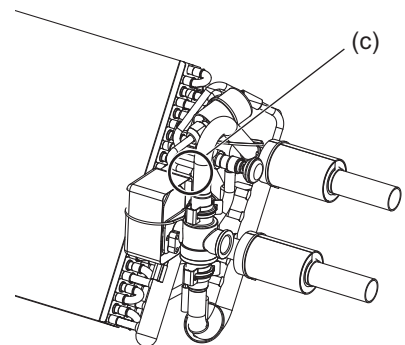

Fig.17
- (1) Debraze the brazed portion of the pressure sensors in the (Fig.17, 18) and then replace the pressure sensors with service parts. ((c) and (d) in the figures)